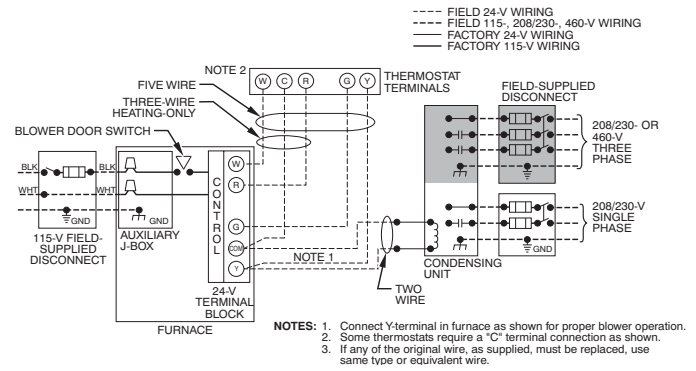
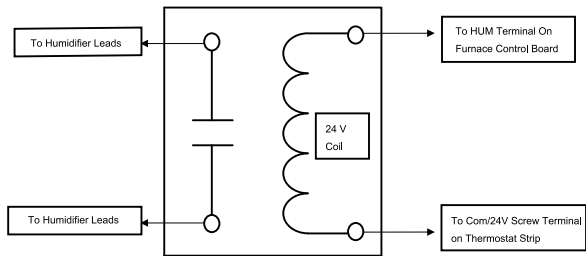
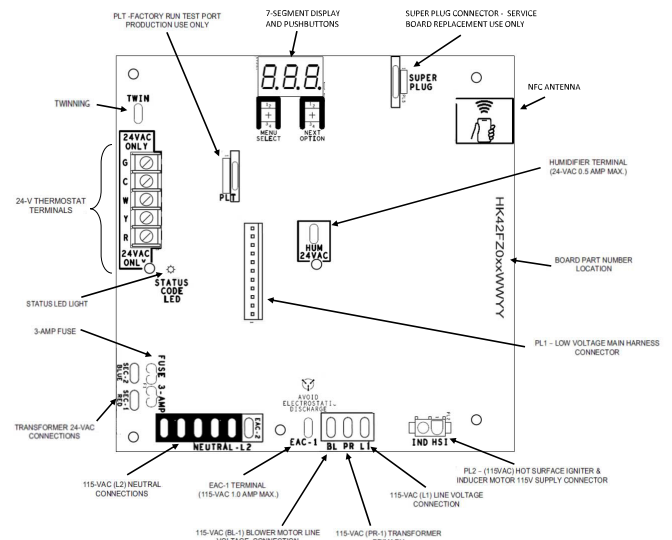

Fig. 33 – Typical Single-Stage Wiring Diagram A190079
Fig. 37 – Field-Supplied Isolation Relay for Humidifiers with Internal Power Supply
Fig. 38 – Example of Single Stage Furnace Control
See Fig. 33 for field wiring diagram showing typical field 115-V wiring. Check all factory and field electrical connections for tightness.
6. Connect power cord power and neutral leads to furnace power leads as shown in Fig. 33.
5. Connect field power and neutral leads to furnace power leads. as shown in Fig. 33.
Make field 24-V connections at the 24-V terminal strip. See Fig. 38. Connect terminal Y as shown in Fig. 33 for proper cooling operation. Use only AWG No. 18, color-coded, copper thermostat wire.
The 24-V circuit contains an automotive-type, 3-amp. fuse located on the control. Any direct shorts during installation, service, or maintenance could cause this fuse to blow. If fuse replacement is required, use ONLY a 3-amp. fuse of identical size. See Fig. 38.
(See Fig. 37 and Fig. 38)
Connect an accessory 24 VAC, 0.5 amp. maximum humidifier (if used) to the 1/4-in male quick-connect HUM terminal and COM-24V screw terminal on the control board thermostat strip. The HUM terminal is energized when the pressure switch closes during a call for heat (See Fig. 37).